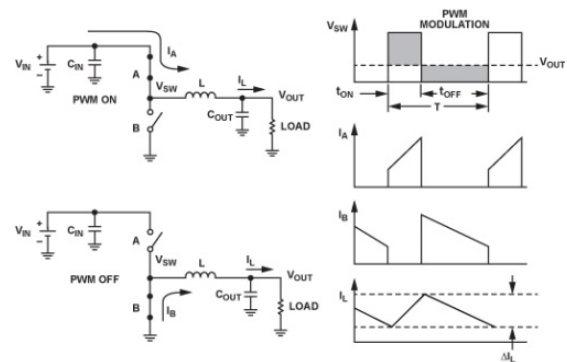

Figure 3. Basic Buck Arrangement³
A buck regulator simply chops up an input voltage, passes it through an LC filter, and gives a stable output. To do this, the buck employs two active elements and two passive elements. The active elements are a switch from the input to the inductor (labeled A in Figure 3) and a switch (or diode) from GND to the inductor (labeled B in Figure 3). The passive elements are the inductor (L) and the output capacitor (C_{OUT}). These form an LC filter, which reduces the ripple created by the active elements. Their arrangement is shown in Figure 3.